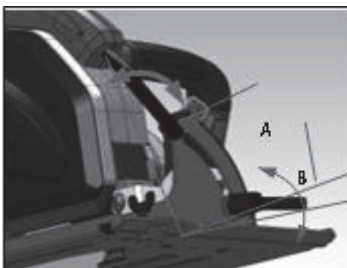

Fig.12.
2. Adjusting the laser indication direction to be same line as cutting line. Adjusting tooling: parallel screwdriver (A) Fig.12